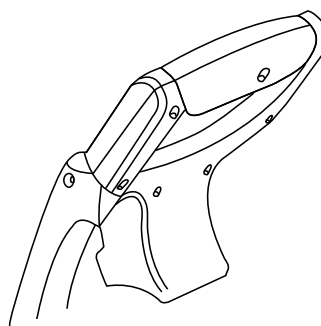

Figure 9
1. To turn the switch ON, squeeze the trigger switch until the Chop Saw starts. During operation, you should continue to squeeze the trigger switch. (Figure 9)